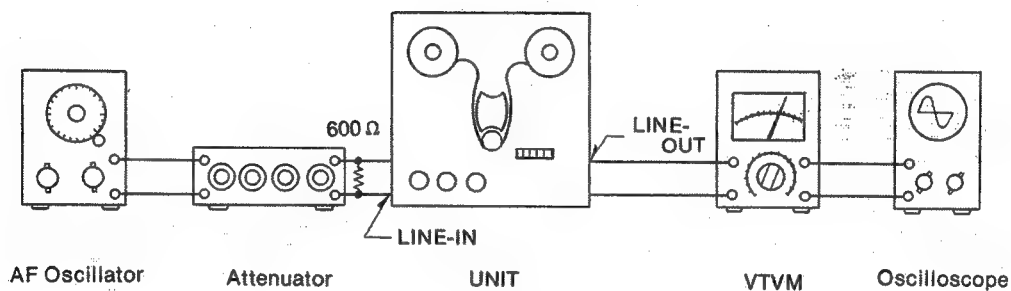

Fig. 36
Standard recording level	<ol style="list-style-type: none"> 1. Test equipment connections are shown in fig. 36. 2. Supply 1 kHz signal ($-24\text{dB} \pm 3\text{dB}$) from AF oscillator, through ATT, to LINE-IN jacks. 3. Set the output control to "8" position on front panel and confirm that the output level at LINE-OUT jacks on VTVM becomes 0.55V. <p>[Adjustment]</p> <ol style="list-style-type: none"> 1. If the measured value is not within standard value, adjust the Line-in level adjustment VR, VR101 (L-CH) and VR201 (R-CH), (See fig. 37.) <div style="border: 1px solid black; padding: 10px; margin-top: 20px; text-align: center;"> <p>Standard recording levels: Line-in: $-24\text{dB} \pm 3\text{dB}$ Mic-in: $-72\text{dB} \pm 2\text{dB}$</p> </div>
<p>Level meter for source monitor</p>	<ol style="list-style-type: none"> 1. Test equipment connections are shown in fig. 36. 2. Set the monitor selector to "SOURCE" position. 3. Set the output control to "8" position on front panel. 4. Supply 1 kHz signal ($-24\text{dB} \pm 3\text{dB}$) from AF oscillator, through ATT, to LINE-IN jacks. 5. Adjust ATT so that the output level at LINE-OUT jacks on VTVM becomes 0.55V. 6. Then confirm that the level meter indicates 0VU position. <p>[Adjustment]</p> <ol style="list-style-type: none"> 1. If the level meter does not indicate 0VU position in the above condition, adjust the level meter adjustment VR, VR108 (L-CH) and VR208 (R-CH). (See fig. 37.) <p>[Confirmation]</p> <ol style="list-style-type: none"> 1. Place unit into the above measurement condition. 2. Set the meter scale selector to "+6dB" position. 3. Confirm that the level meter indicates within $-3 \pm 1\text{VU}$ on "+3dB" scale.
<p>Level meter for tape monitor</p>	<ol style="list-style-type: none"> 1. Test equipment connections are shown in fig. 36. 2. Place unit in the same condition as for "Standard recording level adjustment." 3. Thread "open" blank test tape (QZZORA218EX). 4. Set the meter scale selector to "+3dB" position. 5. Set the monitor selector to "tape" position (both channels). 6. Set the recording mode selector to "ON" position (both channels). 7. Place unit into recording mode. 8. Then confirm that the level meter indicates 0VU. <p>[Adjustment]</p> <ol style="list-style-type: none"> 1. If the level meter does not indicate 0VU in the above condition, adjust the level meter adjustment VR, VR109 (L-CH) and VR209 (R-CH). (See fig. 37.)
- * Measurement instrument connections are as shown in figure 36.
Dummy coil	<p>The purpose of Dummy coils adjustment is to obtain overall frequency response specified with mono-channel recording. Specification: Within $\pm 2\text{dB}$ at 16kHz with relation to overall frequency response specified with stereo mode.</p> <ol style="list-style-type: none"> 1. Test equipment connections are shown in fig. 36. 2. Set tape speed selector to 19cm/s. 3. Set bias selector to "2" position. 4. Set equalizer selector to "2" position. 5. Thread blank test tape QZZORA218EX. 6. Set recording mode selectors to "ON" position. 7. Apply an input signal of 16kHz, -44dB and set the unit for recording. 8. Measure the playback outputs of both channels. 9. Next change recording mode selector L-CH only to "OFF" position. 10. Confirm whether or not R-CH playback output is, with relation to the output in step 8 above, within $\pm 2\text{dB}$. 11. If it is not, adjust dummy coil L501 so that it is within this range. 12. Next set the L-CH recording mode selector to "ON" position, and R-CH to "OFF" position. 13. Make the same measurements and adjustments described in steps 10 to 11 above. <p>(Note, however, that peaking coil L502 is to be adjusted.)</p>